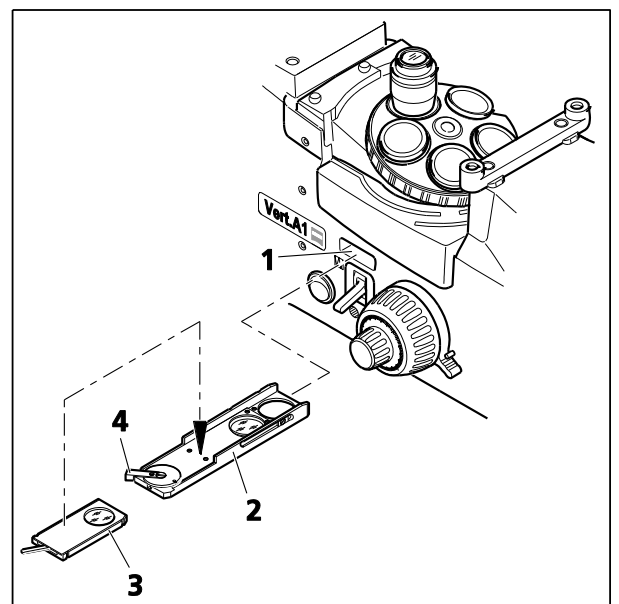

Fig. 4-14 Setting the Polarization
- Insert the analyzer slider (Fig. 4-14/2) (a P&C analyzer module may be used as an alternative) into the slot (Fig. 4-14/1) under the nosepiece. The analyzer can be rotated 90 degrees.
- Use the analyzer turning lever (Fig. 4-14/4) to cross the vibration direction of the analyzer and polarizer (dark position).